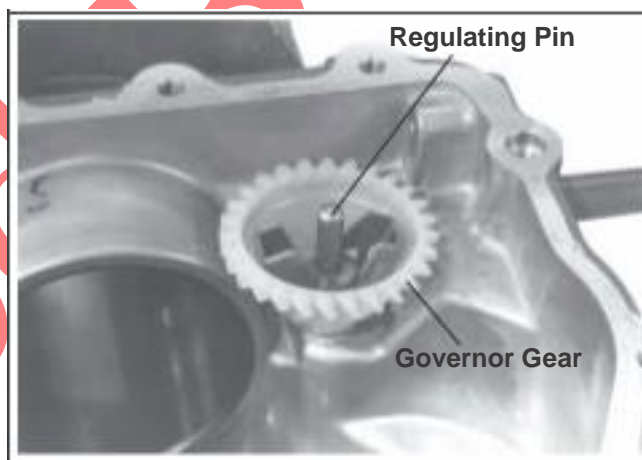

Figure 9-56. Removing Governor Gear.
4. If necessary, remove the governor gear and regulating pin. See Figure 9-56.